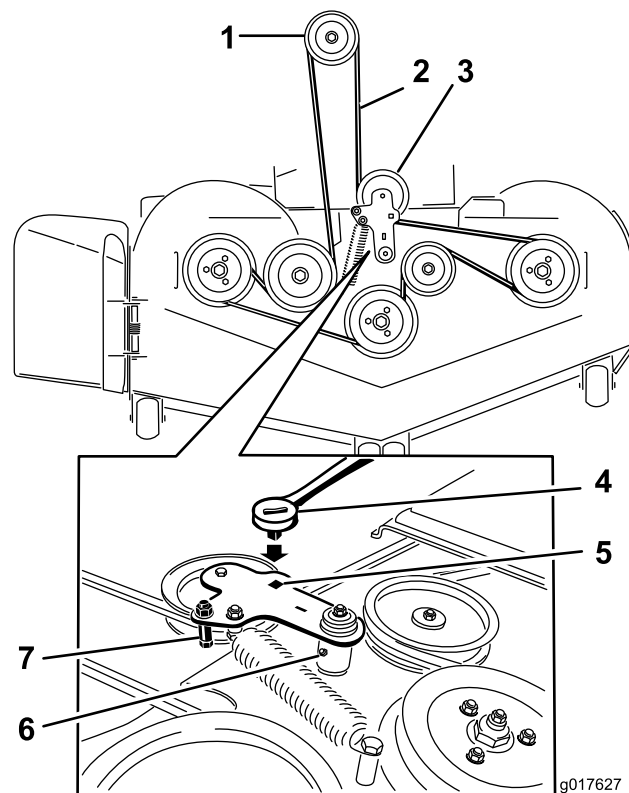

Figure 56
10. Install the belt guide on the idler arm shown in Figure 56.
11. Using the ratchet in the square hole, install the idler spring (Figure 56).
5. Use a ratchet in the square hole in the idler arm to remove tension on the idler spring (Figure 56).
7. Remove the belt guide on the spring loaded idler arm shown in Figure 56.
9. Install the new belt around the mower pulleys and the clutch pulley under the engine (Figure 56).